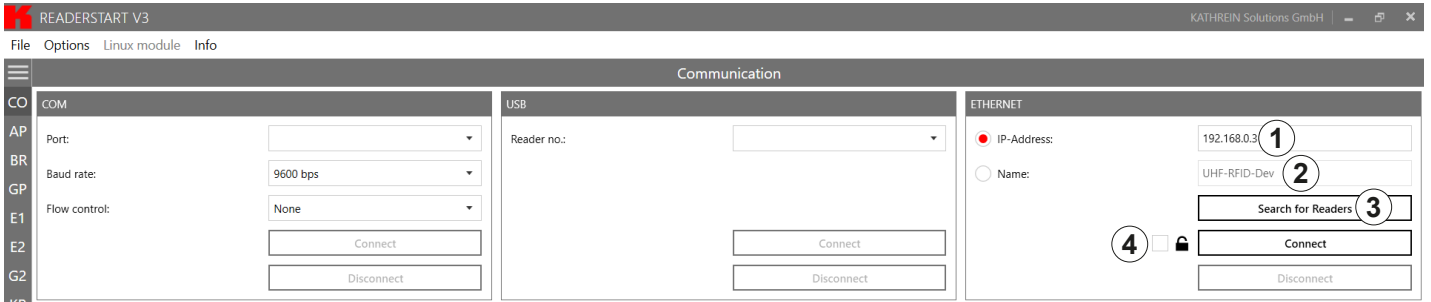

Fig. 21: Establishing connection to the reader
1. Click the *IP address* field (① in Fig. 21).
1. Click the *Name* field (② in Fig. 21).
Tip ▶ To allow only secure SSH connection with an encrypted transmission to the reader, check the box next to the lock symbol (④ in Fig. 21); see also *Establishing a Secure Connection*, p. 68.
3. In the *Ethernet* block, click *Search for Readers* (③ in Fig. 21).